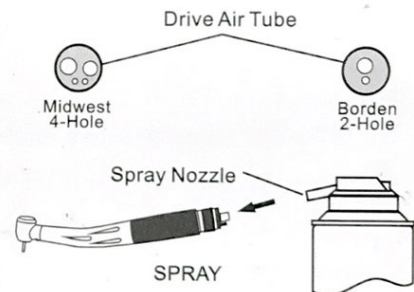

Fig. 6
**Note:** Hold the SPRAY can upright, press the spray nozzle to the drive air tube of the handpiece as shown in Fig. 6, and spray.